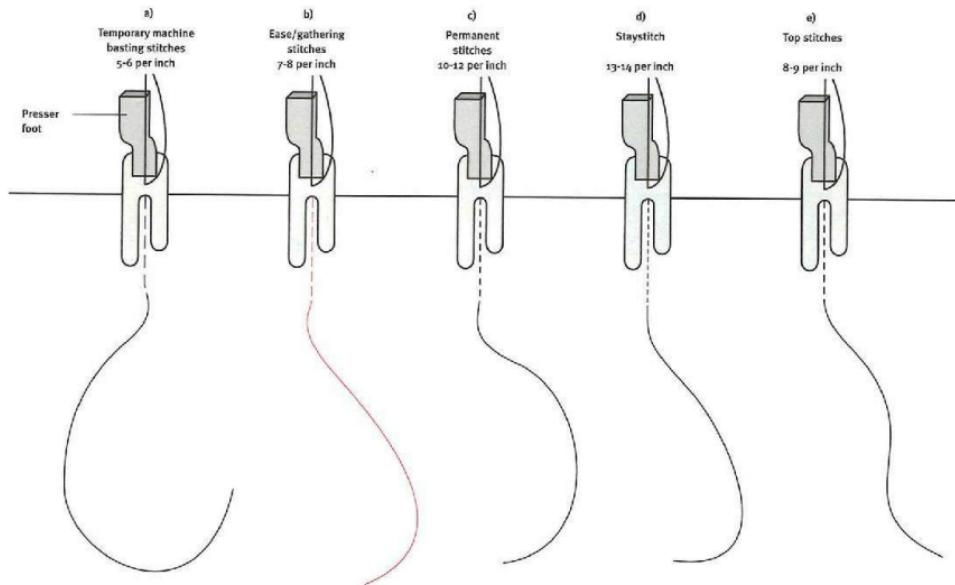

FIGURE 2.25A, B, C, D, E STITCH LENGTHS FOR MUSLIN
- Machine basting stitches (Figure 2.25a)